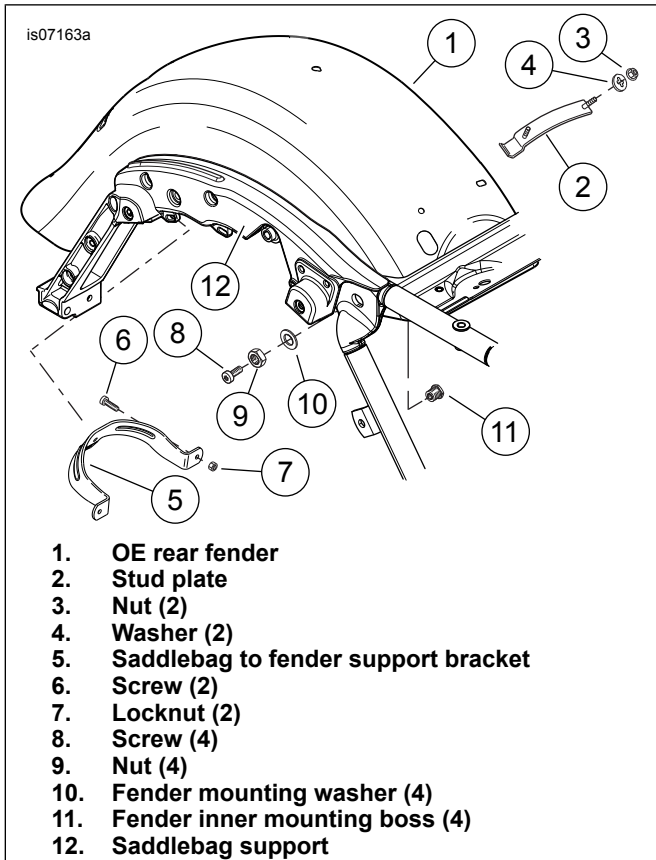

Figure 1. Remove Rear Fender Items
2. See Figure 1. Remove following items from Original Equipment (OE) fender (1). Set aside for later installation to **new** fender:
- a. Stud plate (2), two nuts (3) and two washers (4) at front of fender.
- b. Saddlebag to fender support bracket (5), two screws (6) and two locknuts (7) at rear of fender.
- c. Saddlebag supports (12).
1. See Figure 1. Install a **new** fender mounting boss (11), from inside, through one of four holes in sides of fender.